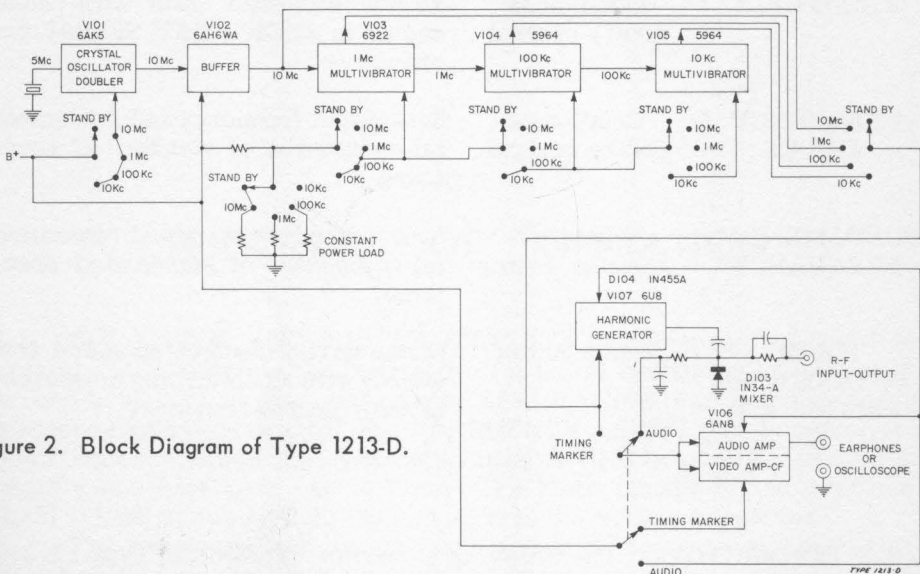

Figure 2. Block Diagram of Type 1213-D.
1.2.1 GENERAL. The basic circuits, shown in Figure 2, are: